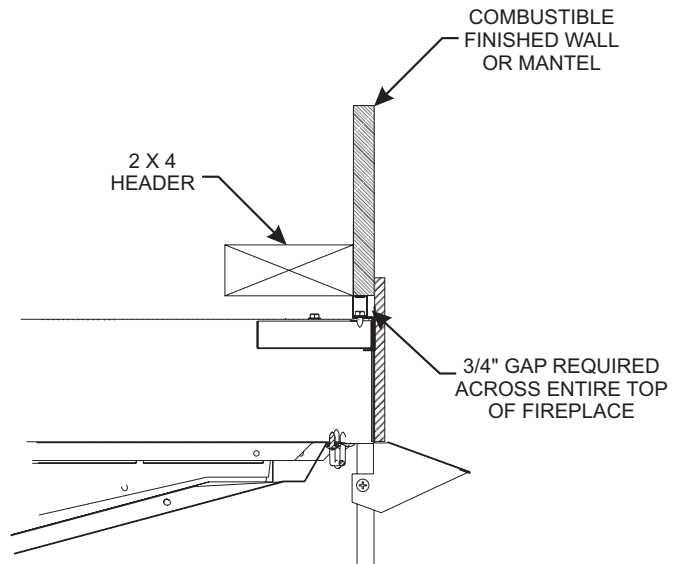

Figure 7 - Clearances to Combustibles
**Top Framing and Finishing:** Combustible framing materials requires 3/4 inch across top of unit. **See Figure 7.**